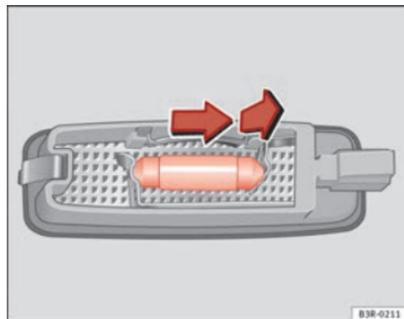

Fig. 229 Removing sun visor light
- Remove the bulb, moving it in the direction of the arrow and outwards ⇒ Fig. 229. ■